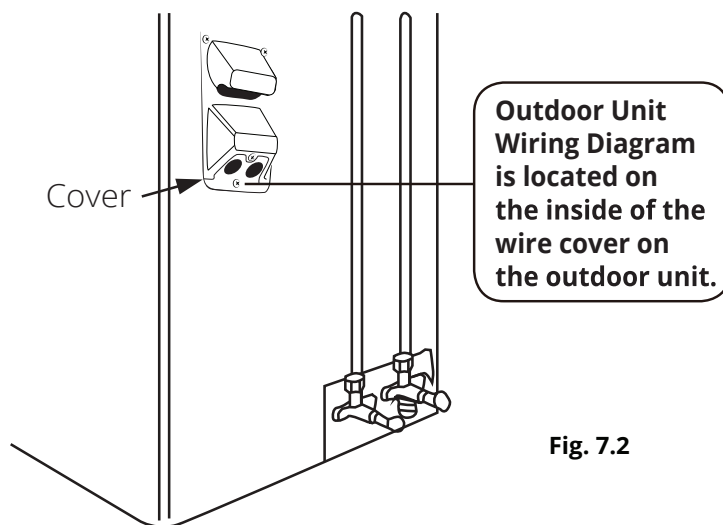

Fig. 7.2
1. Remove the 3 screws from the electrical wiring cover from the outdoor condenser, as shown in the image below and **Fig. 7.2**, and remove it.
ALL WIRING MUST BE INSTALLED STRICTLY IN ACCORDANCE WITH THE WIRING DIAGRAM LOCATED AS SHOWN IN FIG 7.2.